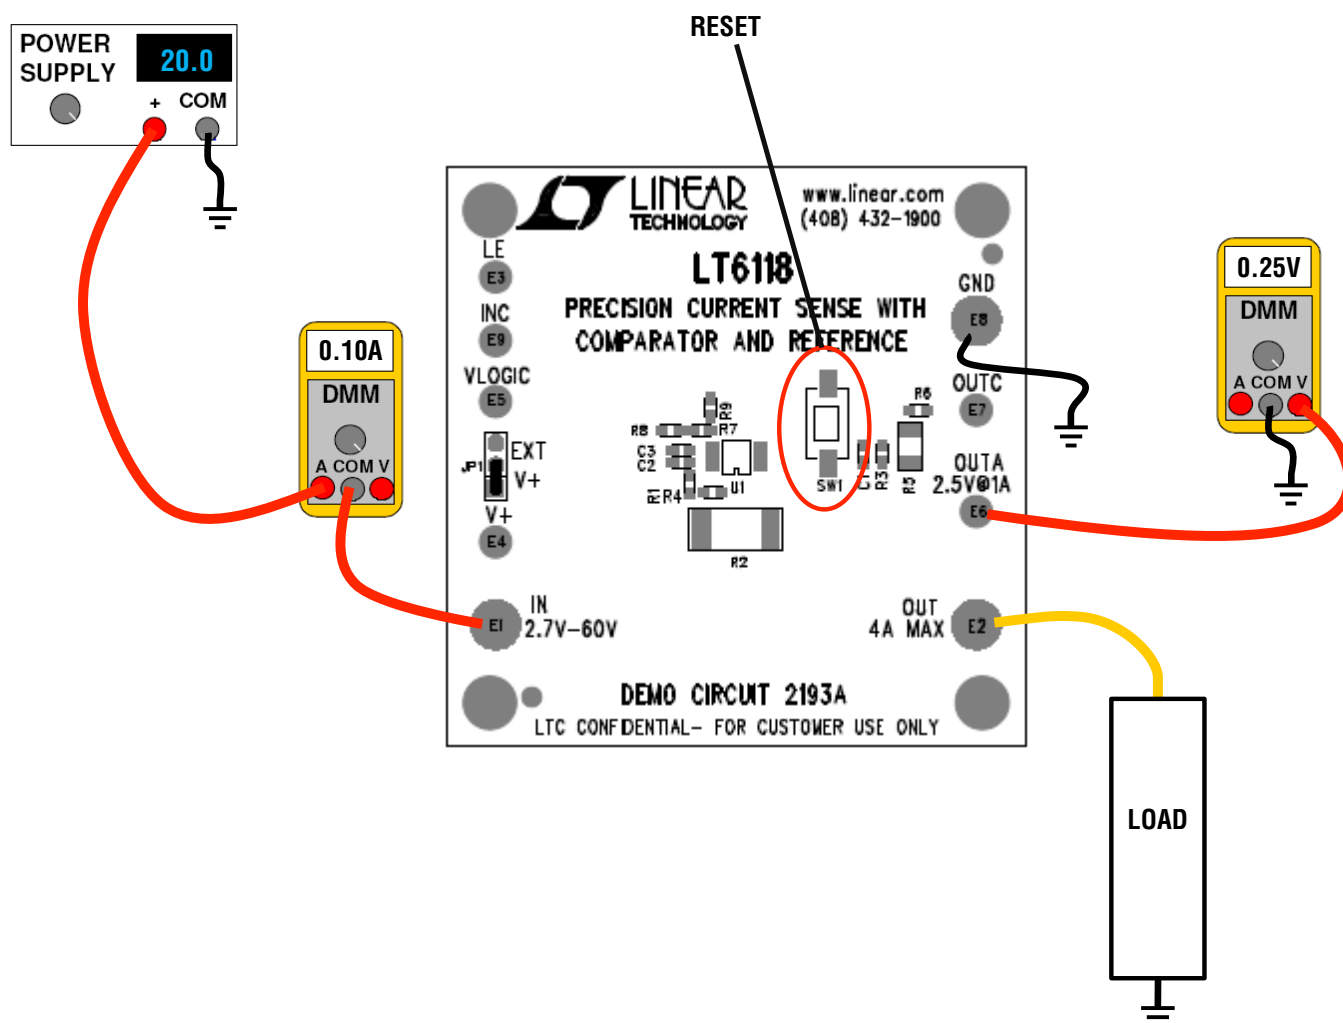

Figure 1
The DC2193A provides a simple way to evaluate the performance of the LT6118. Refer to Figure 1 for proper measurement equipment setup and follow these procedures:
1. With the power off, connect the power supply positive to IN and the common to GND. With default board settings the supply can range from 2.7V to 60V. If the supply does not have an accurate current readout, a DMM may be connected in series with the supply as shown in Figure 1.
4. Turn on the power supply. The comparator will reset during power on and will start in the correct state based on the load current. With the load shown in Figure 1 the comparator output should be at 20V